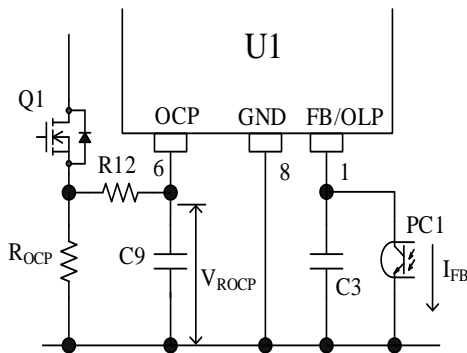
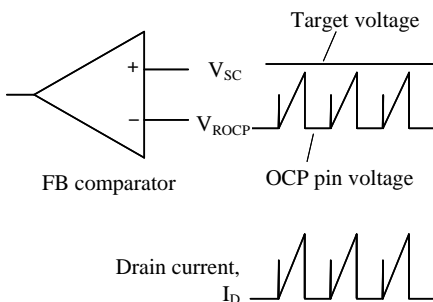

Figure 8-8. FB/OLP Peripheral Circuit
Figure 8-9. Drain Current, I_D , and FB Comparator Operation in Normal Operation
As shown in Figure 8-8 because the auxiliary winding voltage is low at startup, there is a certain period when the quasi-resonant signal has not yet reached a regulated level (Quasi-Resonant Operation Threshold Voltage 1, $V_{BD(TH1)}$, is 0.24V or more, and the effective pulse width for the quasi-resonant signal is 1.0 μ s or more). During this period, the operation is in PWM operation with PWM operation frequency of $f_{OSC} = 21.0$ kHz. Then, when the output voltage rises, the auxiliary winding voltage will rise, and when a quasi-resonant signal reaches the regulated level, quasi-resonant operation will begin.
This IC compares the voltage, V_{ROCP} , of a current detection resistor with the target voltage, V_{SC} , by the internal FB comparator, and controls the peak value of V_{ROCP} so that it gets close to V_{SC} . V_{SC} is internally generated from the FB/OLP pin voltage (see Figure 8-8 and Figure 8-9).
- Add a CR filter with R12 and C9 to the OCP pin as shown in Figure 8-8.